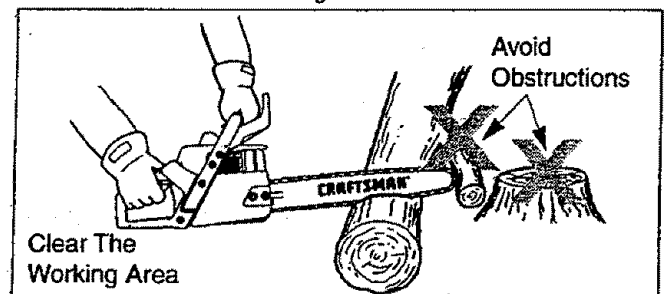

Figure 3
- Keep the working area free from obstructions such as other trees, branches, rocks, fences, stumps, etc. Figure 3. Eliminate or avoid any obstruction that your chain could hit while you are cutting through a particular log or branch.